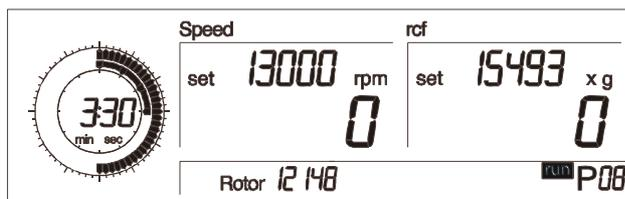

Fig. 5.17: Calling up stored programs;
- Turn the left rotary knob until “run” appears on the display (Fig 5.17).